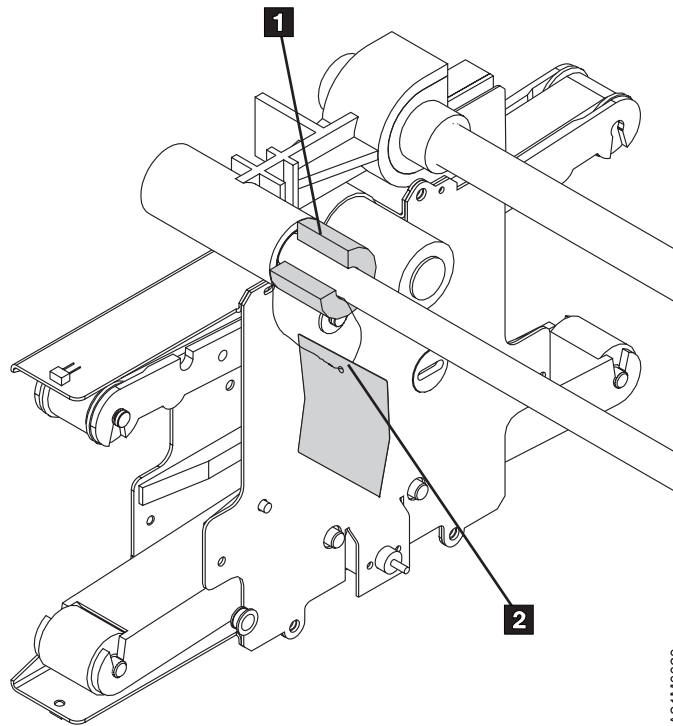

Figure 50. Orange Picker Stopper
- \_\_\_ Step 5. Before turning on power, the orange stopper (see **1** in Figure 50 ) must be removed from the unit. The stopper is pressed on the rail to prevent the picker from moving during shipping. Do the following to remove the stopper: